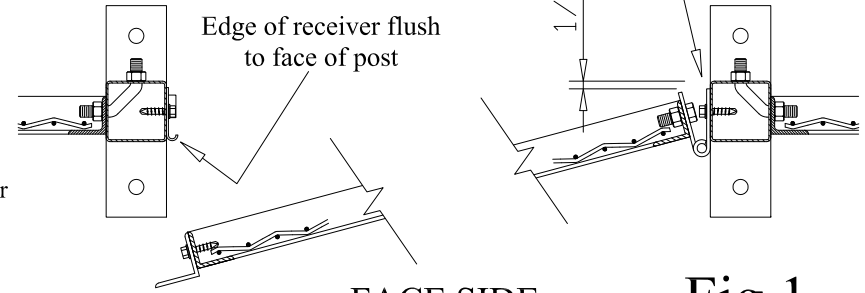

Fig.1
1. Install transom panel (A) at top of door opening, check opening width at floor, and anchor posts to floor. Check that posts are plumb and opening is square.
2. Attach hinges (B) to door post (C) using two self drilling screws per hinge.
- a. Note hinge placement offset detailed in Fig 1 and install tip in Fig. 2.
3. Attach door panel (D) to hinges with two 3/8" x 1" bolts and nuts.